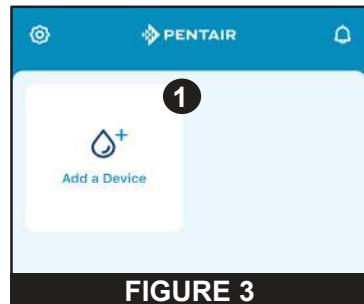

FIGURE 3
2. The Home Dashboard screen will display (**FIGURE 3**). Press ADD A DEVICE [1].